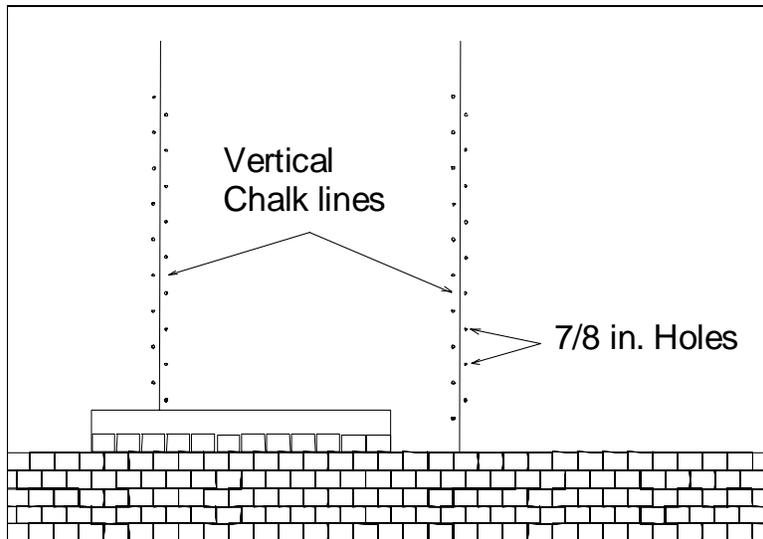

Figure 11
5.2 Position the first PV shingle in the first row while feeding the wires through the hole as the shingle is placed on the deck (see figure 11).
5.3 Align the bottom of the PV shingle with the horizontal chalk line from step 2.10 or the top of the 5 inch (12.7cm) exposure of the previous row of asphalt or PV shingle as shown in figure 11 (if there is no earlier row align with edge of deck).